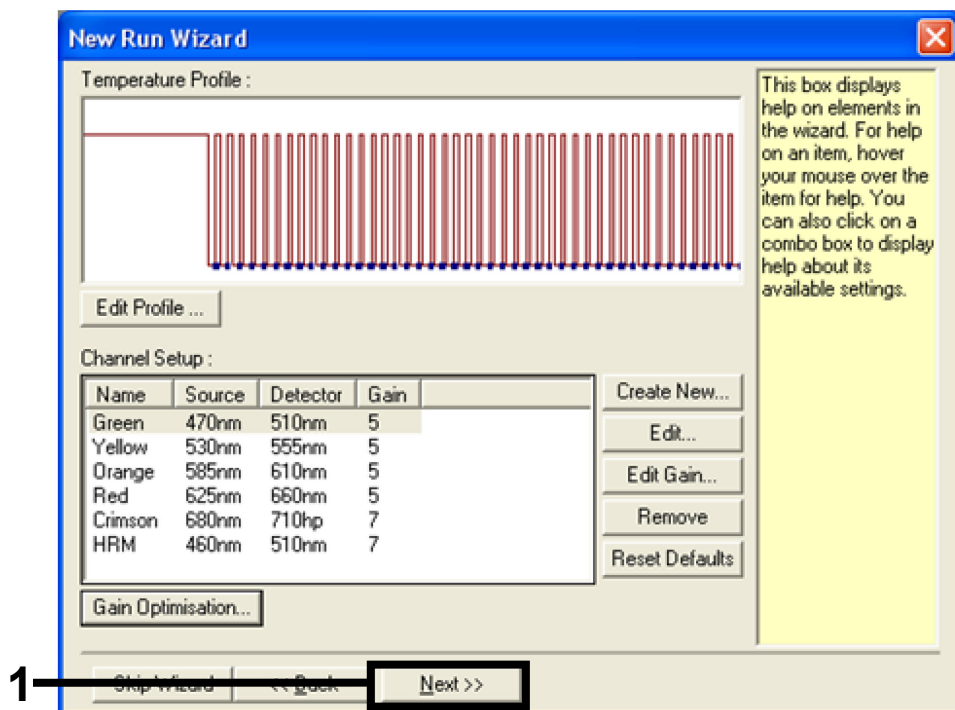

Figure 32. "Next" button (1).
15. Click "Next" (Figure 32) to save the thetascreen EGFR RGQ PCR Kit template (\*.ret file) in an appropriate location by selecting "Save Template."